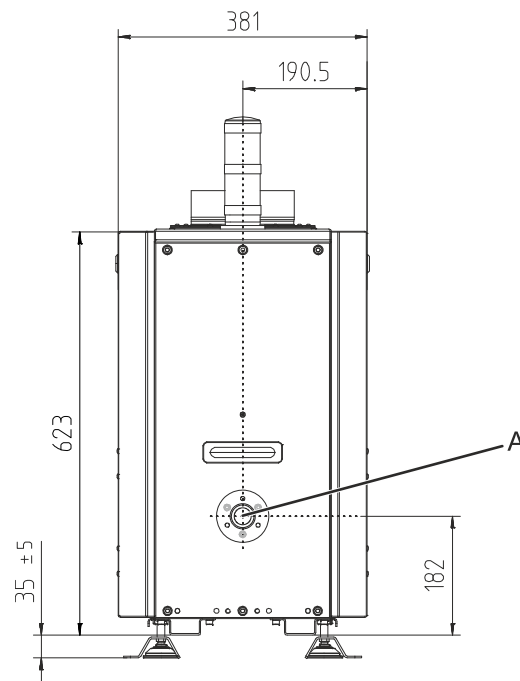

Figure 6: Primary beam exit position
The exact position of the primary beam exit aperture is shown in Figure 6 (A).